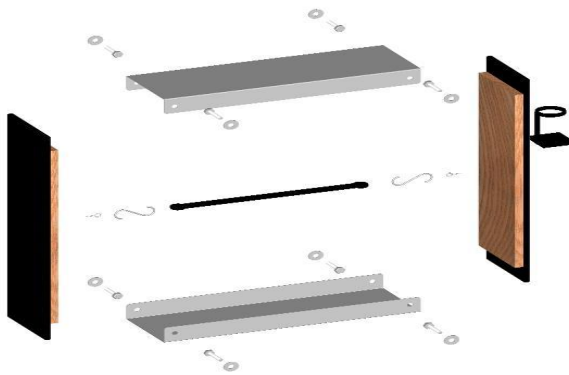

FIGURE 1.1
- (1) Hardware Kit to join cabinets (two aluminum U channels and sixteen 5/16" – 18 x 3/4" bolts with washers) (Figure 1.1)